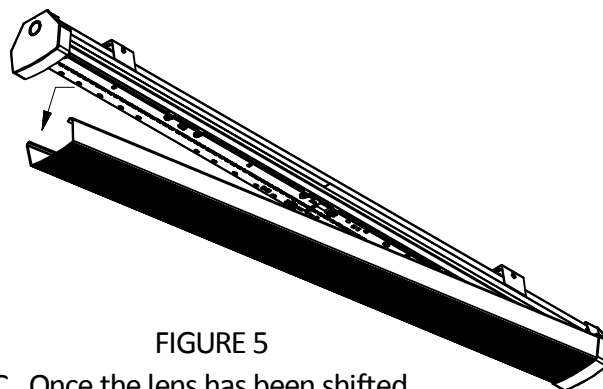

FIGURE 5
- C. Once the lens has been shifted to one end, the opposite end will become free and allow for lens removal. This will reveal the led boards. (See Figure 5)